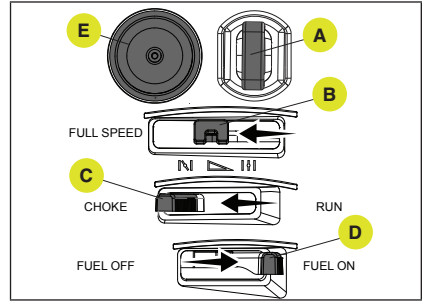

Figure 20
1. Make sure the engine key (safety lock out) (A) is inserted into the keyhole.
2. To start a cold engine: (Fig. 20)
- 2a. Move the throttle lever (B) to full speed.
- 2b. Move the choke lever (C) to the choke position.
- 2c. Move the fuel shut-off lever (D) to the ON position.
- 2d. Prime (E) 3-5 times.
- 2e. Move the choke lever (C) to the run position once the engine begins to run after you pull the recoil start grip or use the electric start.